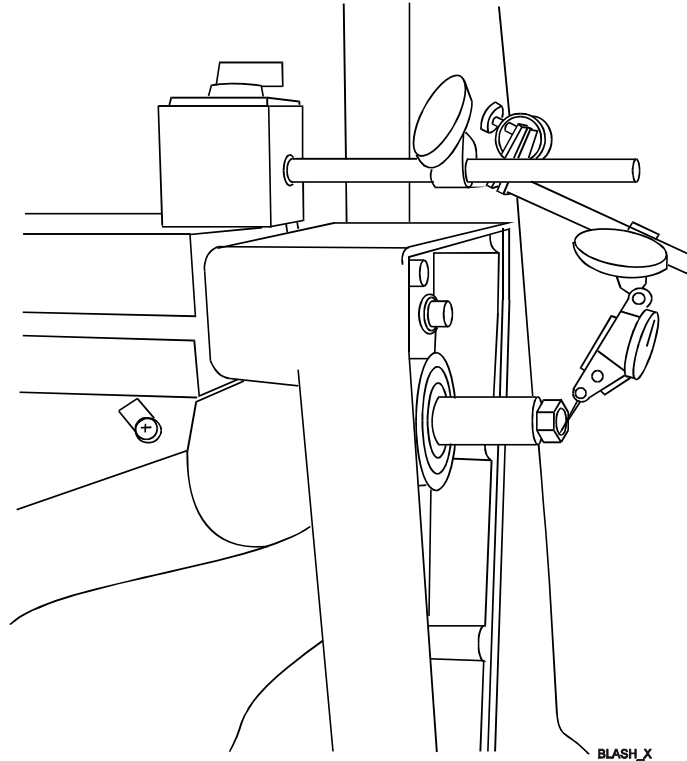

Figure 3-9, Typical Indicator Position
1. Measure the amount of backlash currently on the X axis. Set the magnetic base with the indicator attached on the right edge of the table surface. Attach the base so that the indicator tip rests against the end of the ballscrew. Set the indicator to 0. Refer to **Figure 3-9, Typical Indicator Position**.